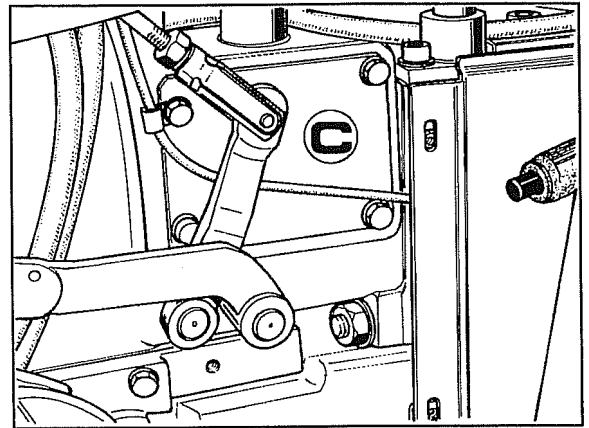

Fig. 2
- 2 Remove cover **C** Fig.2 and the one on the opposite side.